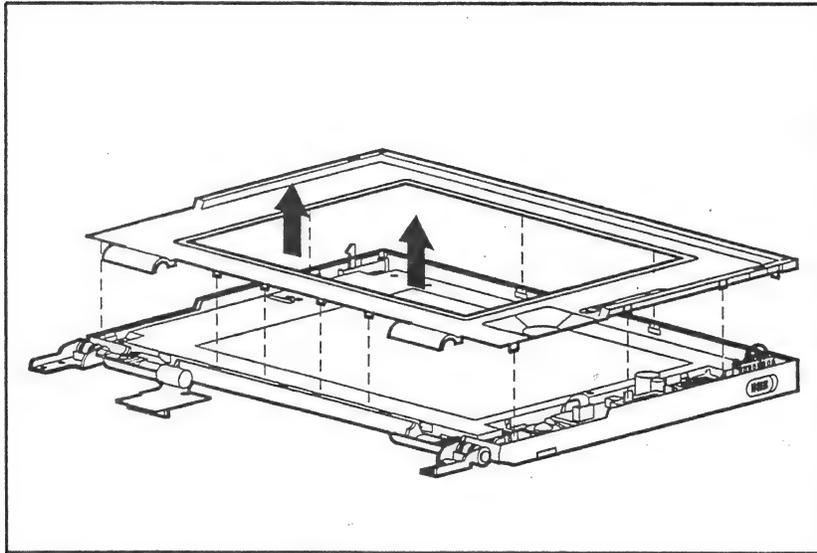

Figure 2-15. Removing the Display Bezel
4. Remove the display bezel from the display panel by gently pulling the bezel frame from the inside and working from the bottom up (Figure 2-15).